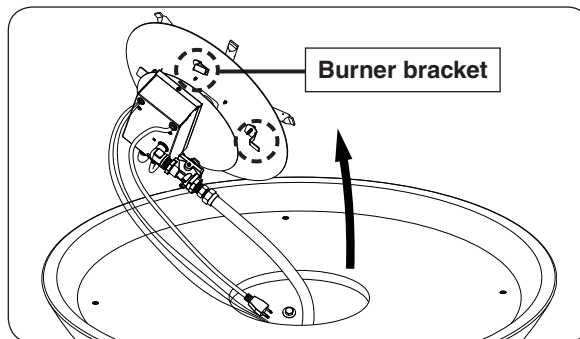

Fig. 46-1 Remove burner assy (if needed)
1. Use a  $\frac{5}{16}$ " nut driver to partially unfasten the four screws found on the burner assembly. Then remove the burner and set it off to the side. See Fig. 46-1.